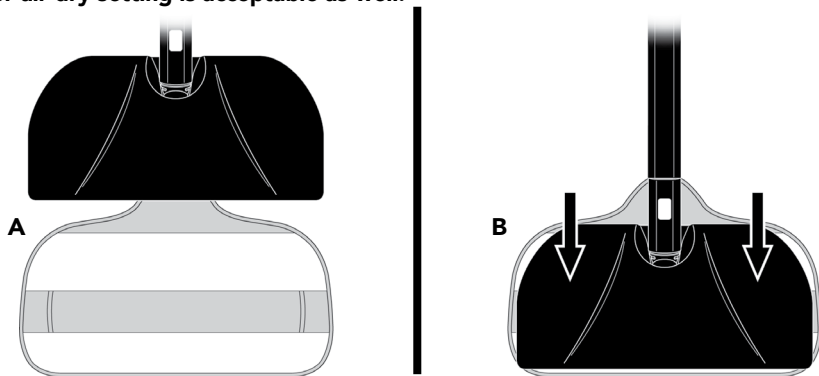

FIGURE 3
2. Align Mop Head above Microfiber Pad. Make sure Mop Head is oriented with pad as shown, and centered as best as possible (FIGURE 3-A).
3. Press Mop Head firmly down onto Microfiber Pad. Fastener strips will adhere to pad grips on underside of Mop Head. Microfiber Pad should now be attached and ready for use (FIGURE 3-B).